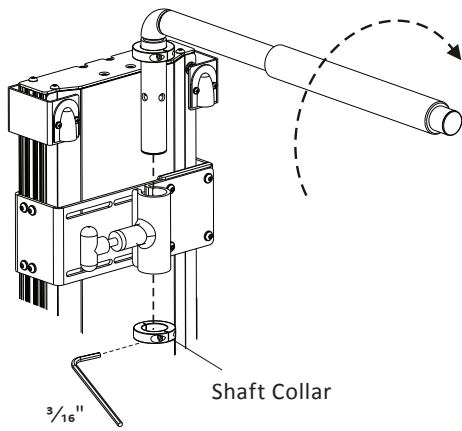

Figure 5-13
1. Remove the lower shaft collar, pull the T-handle to release the hold-down arm, and lift out. *See Figure 5-13.*